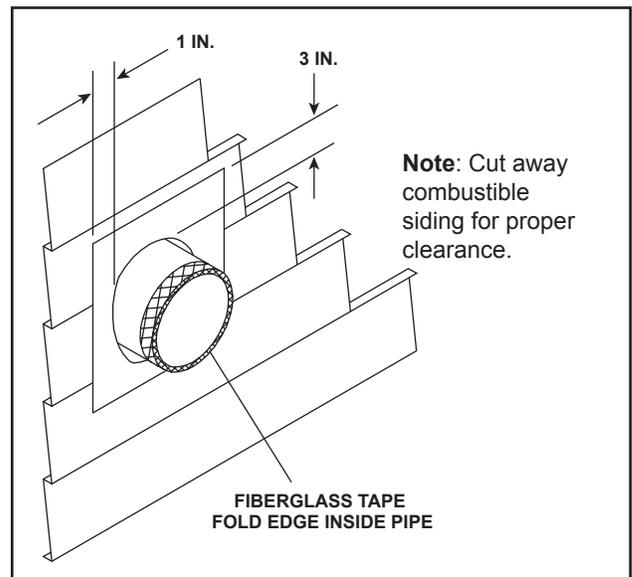
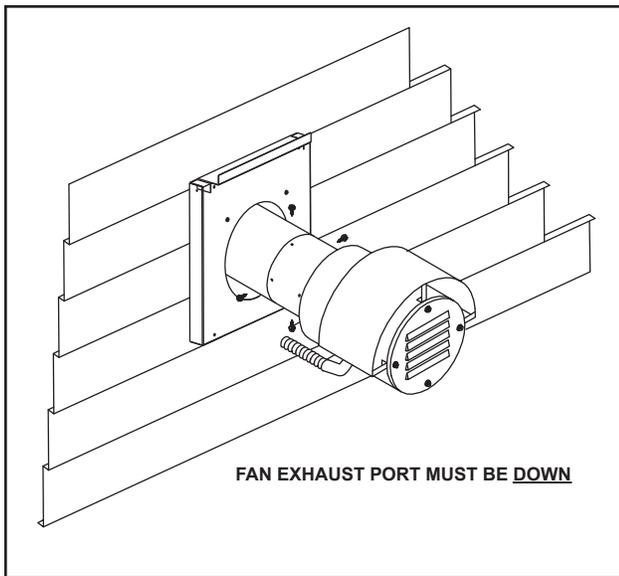

Figure 3.
Figure 4.
4. After determining the location of the vent system termination point (see Step 1) cut a 10 in. X 10 in. square hole (for 4 in./6 in. diameter pipe) or a 10 in. X 12 in. rectangular hole (for 5 in./8 in. diameter pipe) through the wall or roof. Apply the adhesive back fiberglass tape to the last vent system component 1-1/4 in. from the edge. Firmly press the tape on to the venting and fold the extra tape inside the venting. See Figure 3. Mount and attach the power vent to the last vent system component. The exhaust port of the PVK-80 cap **MUST** be pointed down. Fasten the last horizontal vent section to the exterior firestop with a sheetmetal screw through the flange (5 in./8 in. diameter pipe) or pipelock tab (5 in./8 in. diameter pipe) and into the vent pipe. See Figure 4.